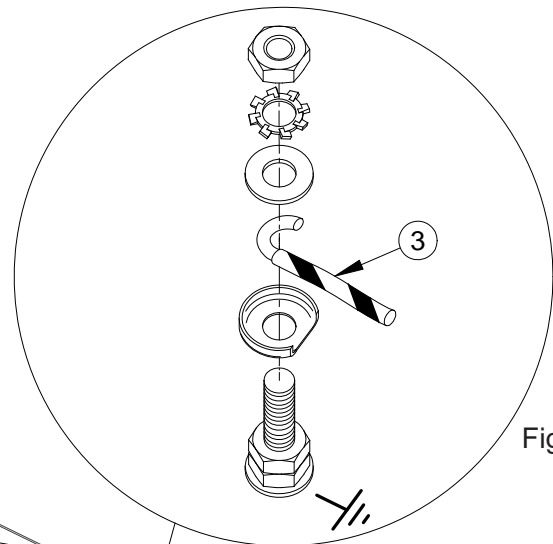

Fig. 10
4. Consolidate the stranded conductor ends by twisting and shape the earth conductor as shown in Fig. 10 (item 3).
5. Remove earth terminal post clamping components and assemble as shown in Fig. 10 ensuring shaped conductor is orientated as shown and all strands of the conductor are clamped between the washers.